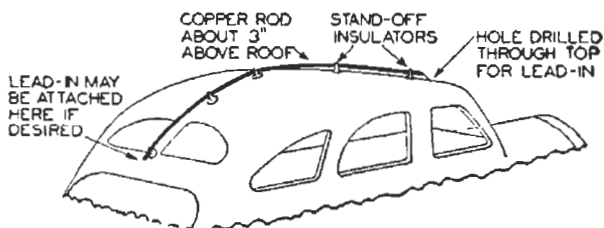

FIG. 5. An antenna mounted on top the car.
**Top Types.** A very satisfactory aerial could be had in early cars by connecting to the wire mesh in the fabric top of the car. The all-steel tops of modern cars has made this impossible but, since the roof is an ideal location—as it lets the antenna be fairly high and well away from most interference sources—a number of different antennas have been developed to go on top of the car. A typical one is shown in Fig. 5. Several more decorative types have